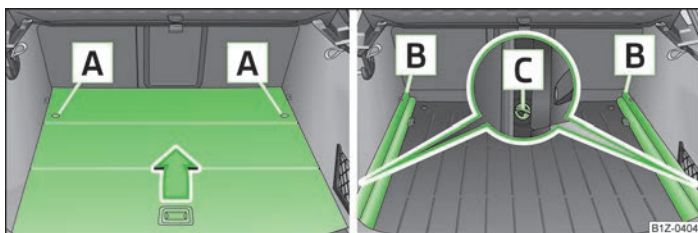

Fig. 58 Boot: Remove variable loading floor/remove carrier rails
- Unlock the variable loading floor by turning the safety eyes **A** » Fig. 58 to the left by around 90°.